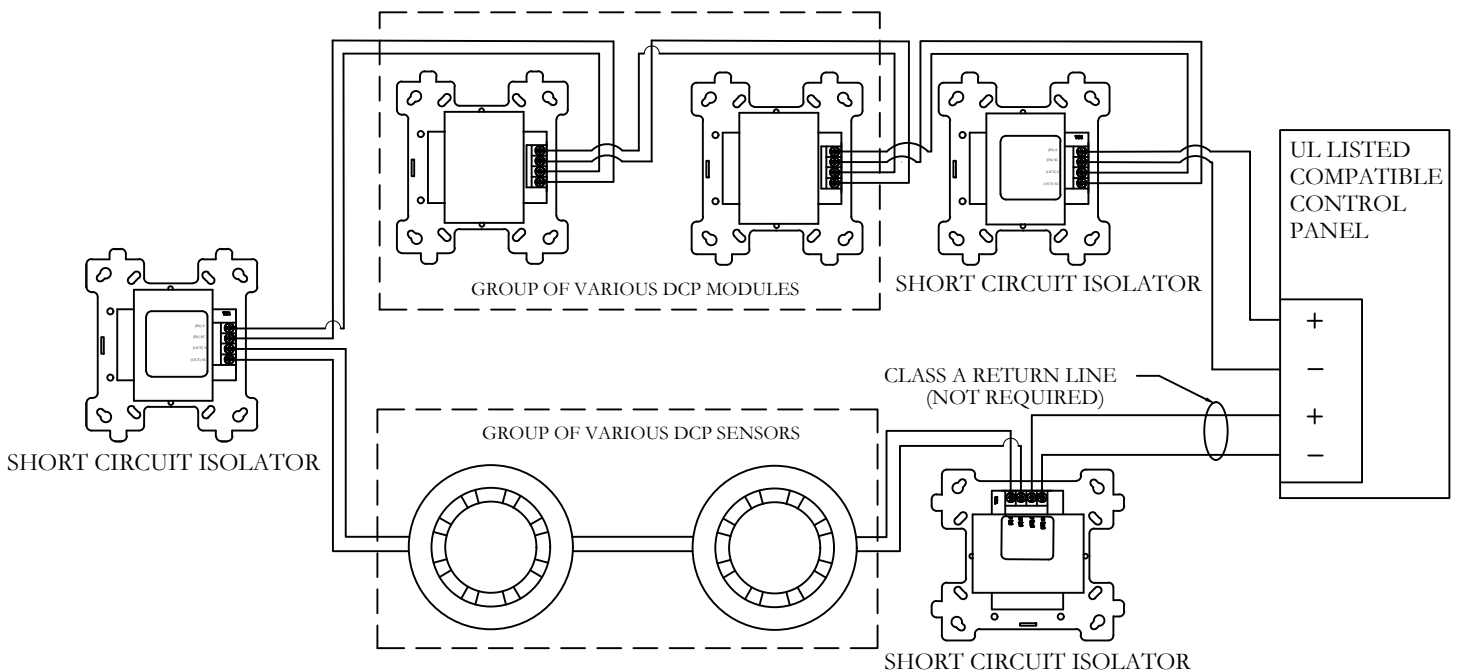

FIGURE 3
- 1) Install module wiring in accordance with the job drawings and appropriate wiring diagram (see Fig. 3)